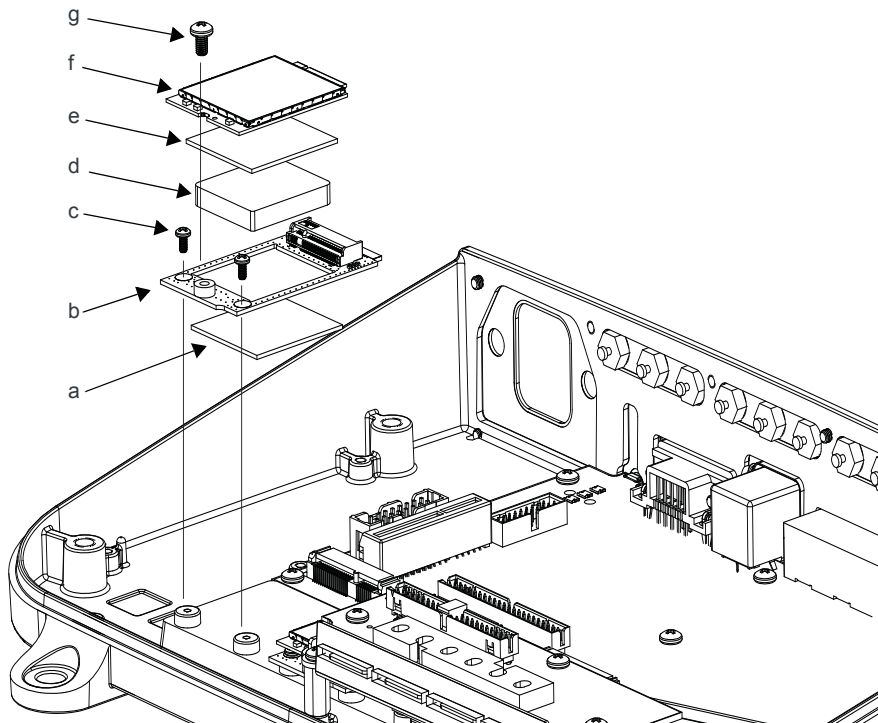

Figure 4: Installing the EM7511 radio module
6. Install the EM7511 module and kit components as shown in Figure 4. Follow steps **a** to **g**, listed below.